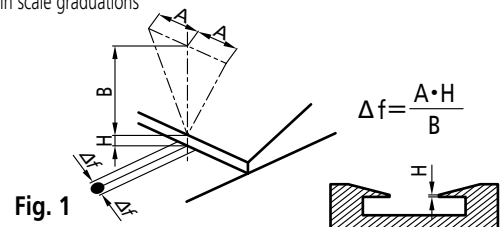

Fig. 1
1. Read the scale graduations from directly above to avoid parallax error. **(Fig. 1)**